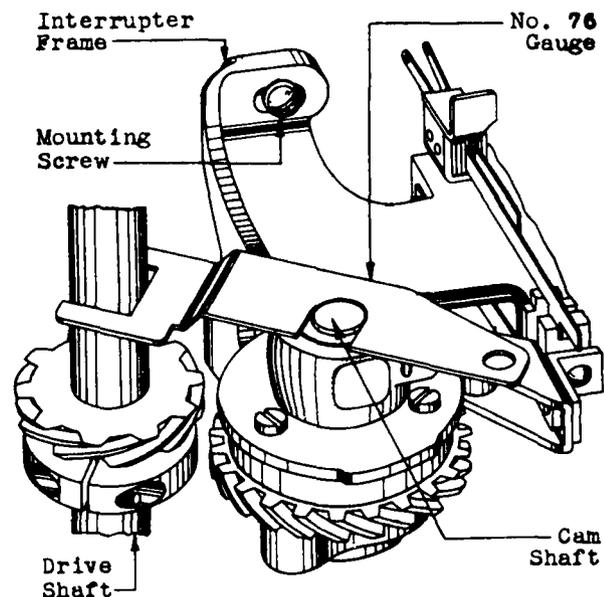

Fig. 28 - Method of Locating Driving and Cam Shaft Gears
(1) 149, 160, 164, 165, and 167 Type Interrupters: If the backlash between the gears is not satisfactory, loosen the mounting screws holding the interrupter to the frame with the 4" regular screwdriver enough to permit shifting the position of the interrupter by tapping it towards or away from the vertical drive shaft with the handle of the screwdriver. The mounting screw holes in the interrupter frame are elongated to permit this adjustment. Tap the interrupter either toward or away from the vertical drive shaft until the minimum backlash without causing a bind is obtained. Check for the backlash in this manner for one complete revolution of the driving shaft and notice that the gears do not bind at any point during the revolution. If any eccentricity in the gears is noted, adjust them to the minimum clearance at their closest point. Securely tighten the mounting screws when the interrupter is in its proper position on the frame.
(2) 152, 161 and 166 Type Interrupters: Determine the proper setting of the 152, 161 and 166 type interrupters using the No. 76 locating gauge as follows. With the radial slot opening toward the front of the frame as shown in Fig. 28, place the square slot in the end of the gauge over the vertical drive shaft so that the shaft fits snugly in the slot and swing the gauge so as to bring the radial slot down over the shaft of the cam and gear assembly. Move the interrupter as outlined in (1) until the cam shaft coincides with the radial slot in the locating gauge. Securely tighten the mounting screws when the interrupter is in its proper position on the frame. If the shaft of the cam and gear assembly does not project from its bearing far enough to permit it to enter the radial slot in the locating gauge, line